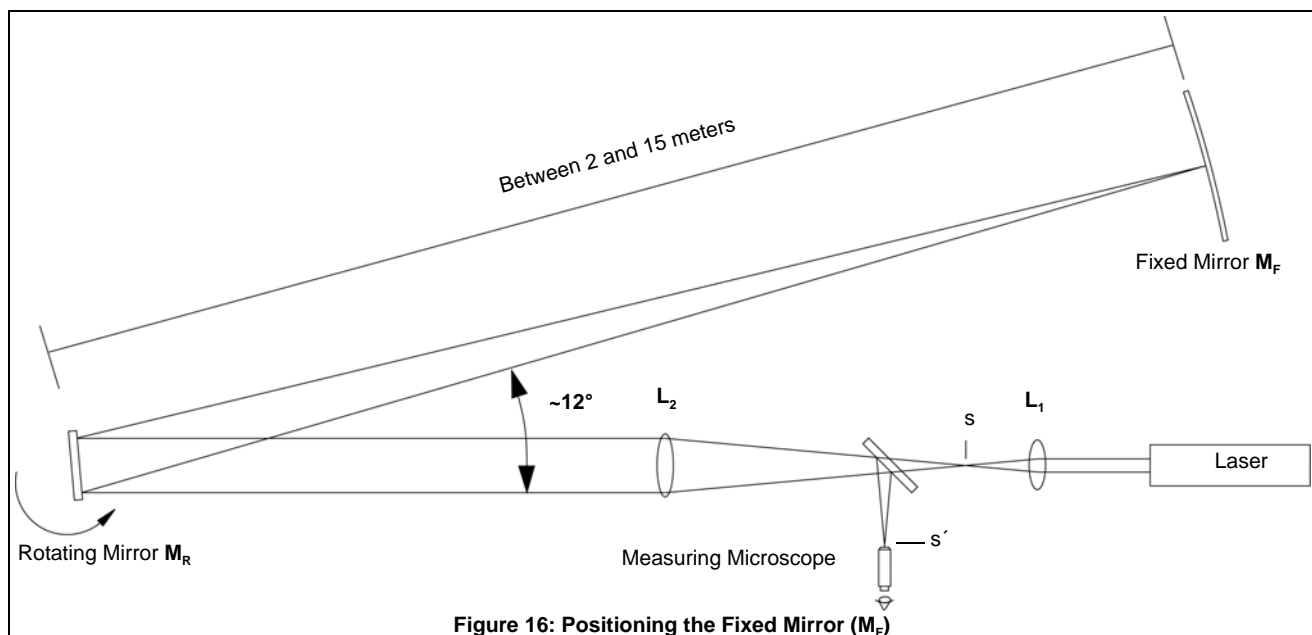

Figure 16: Positioning the Fixed Mirror ( $M_F$ )
21. Place the Fixed Mirror ( $M_F$ ) between 2 and 15 meters from the Rotating Mirror ( $M_R$ ) as shown in Figure 16. The angle between the axis of the Optics Bench and a line from  $M_R$  to  $M_F$  should be approximately 12 degrees.